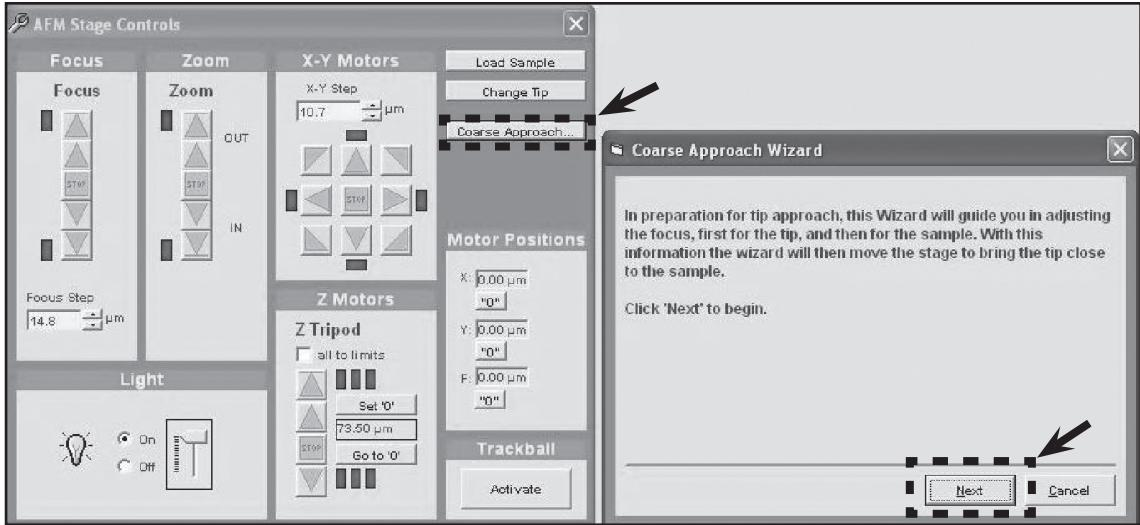

Figure 4.25: The Course Approach Wizard opens when Coarse Approach is selected in the AFM Stage Controls window.
1. Click Coarse Approach on the Stage Controls Window [see Figure 4.25].